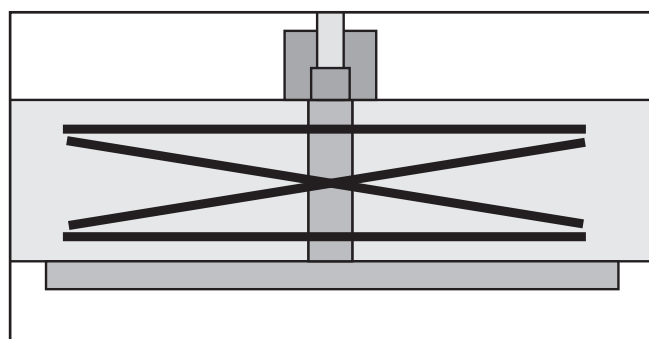

Figure 55. Straightedge positions for checking infeed/outfeed table parallelism.
4. Place the straightedge in the positions shown in **Figure 55**. In each position, the straightedge should sit flat against both the outfeed table and the infeed table.
7. Place the straightedge in one of the positions shown in **Figure 55**, and adjust the eccentric bushings under the infeed table so the straightedge lies flat against both tables. Repeat this step with each of the remaining straightedge positions as many times as necessary until the infeed table is parallel with the outfeed table.